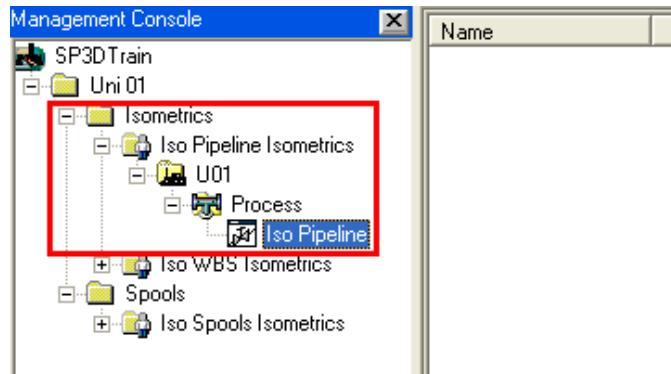

Figure 49: Piping Hierarchy in Management Console
3. The Unit **U01** and the piping system available in **U01** appear in the hierarchy of **Management Console**. The piping isometric drawing type **Iso Pipeline** also appears in the hierarchy, as shown in Figure 49.